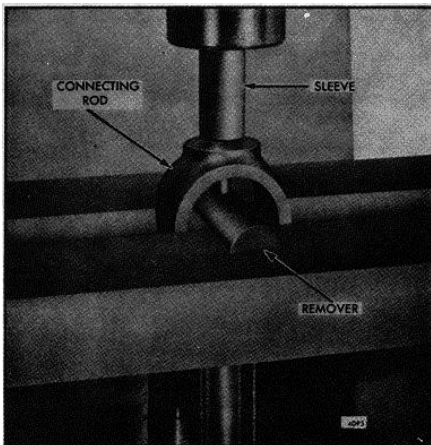

Fig. 5 - Removing Spray Nozzle
3. Support the connecting rod and tool in an arbor press as shown in Fig. 5..